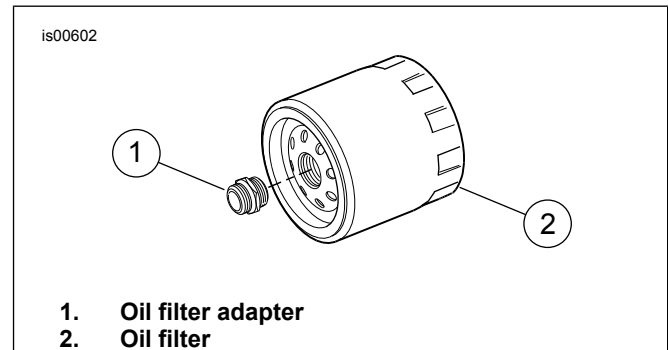

Figure 1. Oil Filter and Adapter
1. See Figure 1. Remove the oil filter (2) and oil filter adapter (1) from oil filter mount location. Clean the oil filter mounting area thoroughly. Discard oil filter adapter.